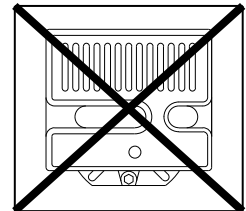

Fig. 8
- The burner is designed to operate only in positions 1, 2, 3 and 4 (Fig. 8).